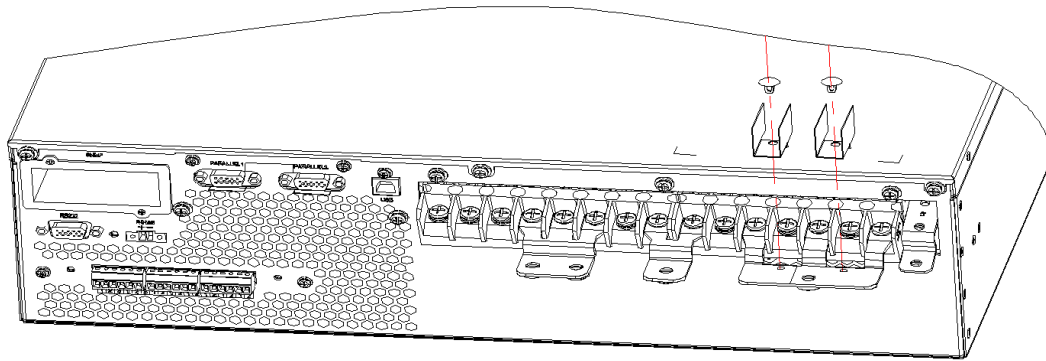
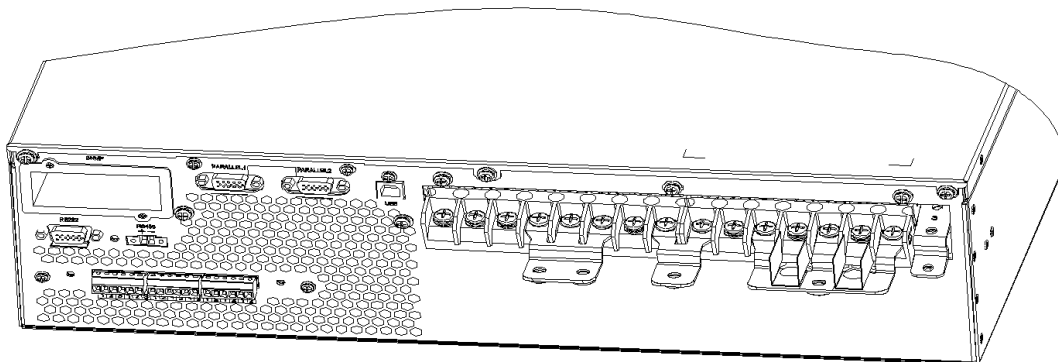

Figure 3-20 Fix insulation film
Figure 3-21 Graphic of insulation film fixed
3. Fix the insulating film (accessory) to the No.5 copper bar as shown in Figure 3-20, and fixed in the corresponding position with the plastic rivet, as shown in figure 3-21.